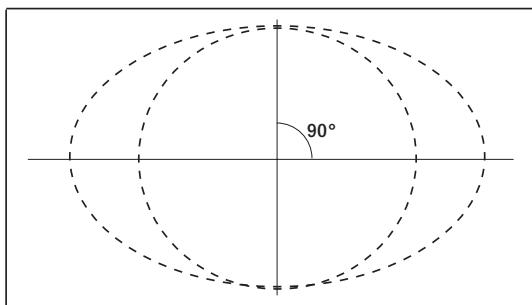
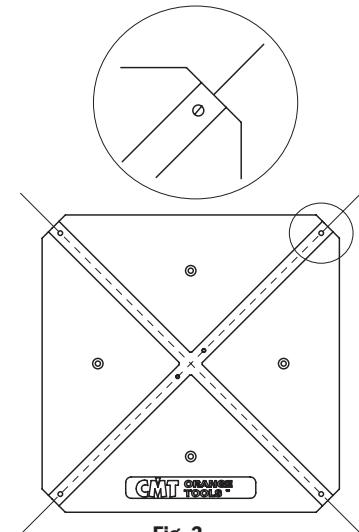
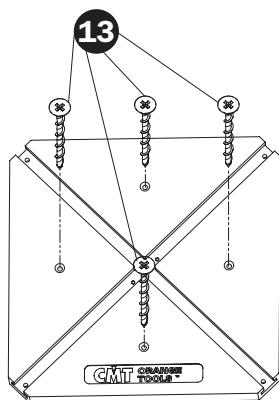

Fig. 2
Fig. 3
Fig. 4
**(Fig. 2)** Draw the 90° axes of the circle to be cut on the work piece. **(Fig. 4)** Fix the cross frame (1) to the work piece **(Fig. 4)** using the wood screws (13) or with double-sided adhesive tape so that the grooves of the cross frame coincide perfectly with the previously individuate axes **(Fig. 3)**. The cross frame is now centered on the circle's axis.
Indicate the 90° axes of the ellipse to be cut on the work piece and set the dimensions of the ellipse (Fig. 2).
(Fig. 4) Fix the cross frame (1) to the work piece using the wood screws (13) or with double-sided adhesive tape so that the slots of the cross frame (1) coincide perfectly with the previously found axes (Fig. 3).